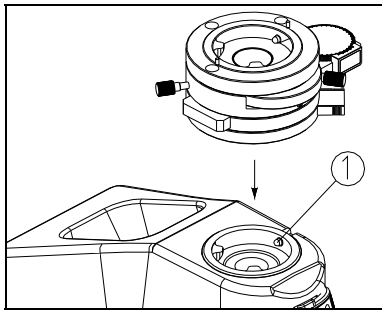

Fig. 8
- Loosen the center head lock-screw① fully.
- Lock down the lock-screw. (Fig.8)